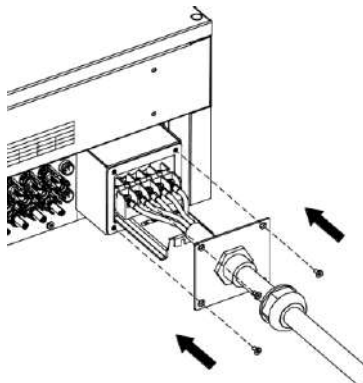

Figure 4.22 Fix the waterproof cover of junction box
- (7) Push the AC terminal rail into the inside of the case and fix the rail with screws. Then lock the waterproof cover of the junction box with the fixing screws. The tightening torque is $1.5 \text{ N}\cdot\text{m}$. Finally, tighten the waterproof connector to complete the waterproofing of the cable, as shown in Figure 4.22.